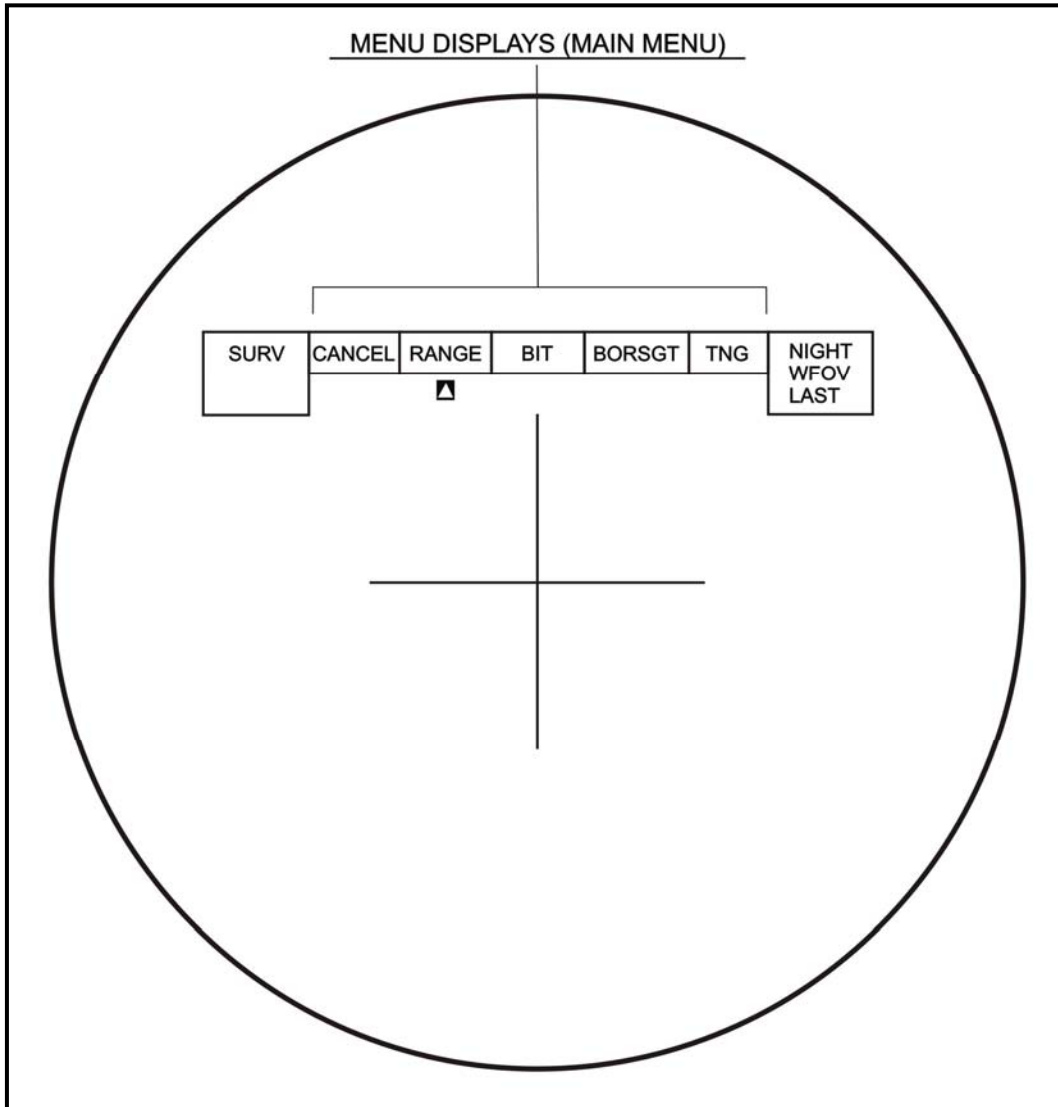

Figure 2-32. Menu display area/main menu.
c. **Menu Display Area.** During system operations in combat or training, various menus can be displayed on the TAS display by pressing the MENU switch on the left handgrip control. After a menu is displayed (Figure 2-32, page 2-24), the gunner can select any of the options displayed by moving the menu switch left or right, causing a cursor to move to that function. The gunner then presses the MENU switch again to activate the function selected.
(1) **Main Menu.** The main menu is the first menu the gunner will see when he presses the MENU switch (Figure 2-32, page 2-24). The main menu has five options: